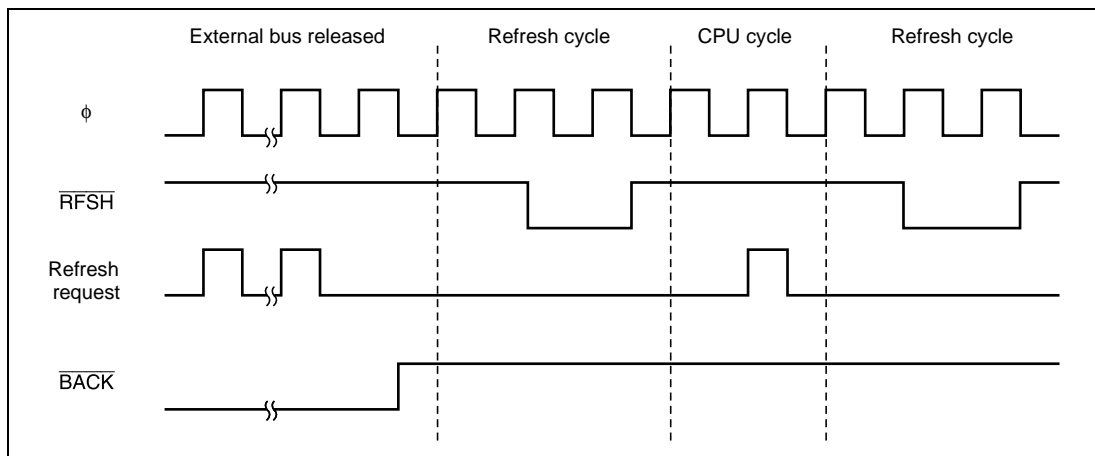

Figure 6.35 Bus-Released State and Refresh Cycles
- If a refresh request is generated internally while the external bus is released, the first request is retained and a single refresh cycle will be executed after the bus-released state is cleared. Figure 6.35 shows the bus cycle in this case.